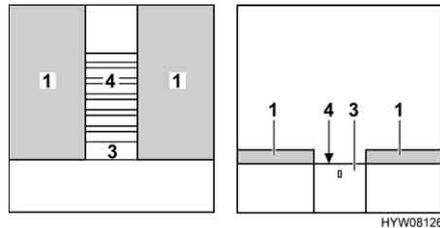

Fig. 84 During conversion
- Pull out slatted frame (Fig. 84,4) completely. To do this, pull on the extension (Fig. 84,3).